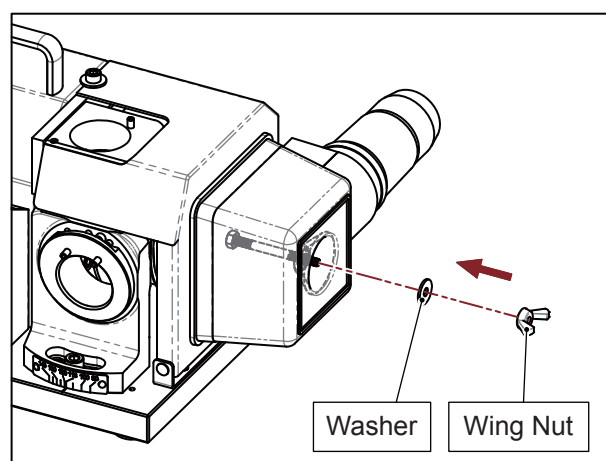

Fig. 4-3
3. Assemble the washer and wing nut and tighten the wing nut to secure the dust collection adapter. (Fig. 4-3)